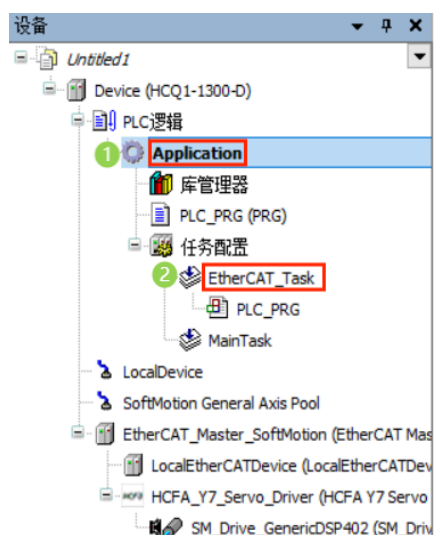

Figure 13-15 Adding EtherCAT POU
9. Put [PLC_PRG] at ① to [EtherCAT_Task] at ②, as shown in Figure 13-15.